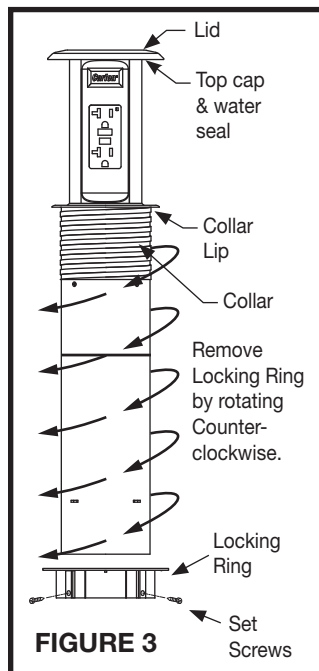

FIGURE 3
3. Before lowering unit into the prepared hole, remove rubber washer and locking ring by turning counterclockwise (see Figure 3). Retain rubber washer and locking ring for step 5..